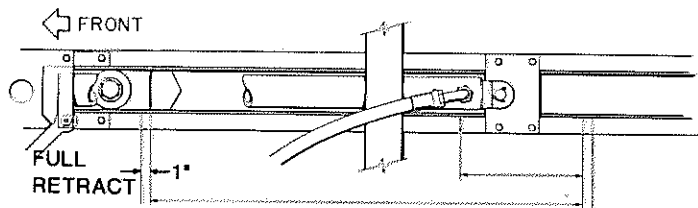

Fig. 47
6. Mark the location the plunger reached fully retracted. Also mark 1 inch rearward of this position, see **Fig. 47**.
14. LS-10 (Plunger Return Stop Switch) should be positioned so that the plunger stops one inch prior to its full retract position, see **Fig. 47**.